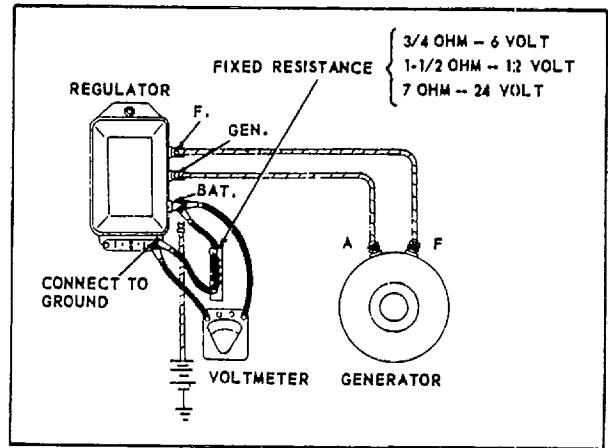

Figure 7-1G. Checking Voltage Setting of Voltage Regulator
b. To check the voltage setting, a fixed resistor of 2.25 ohm must be substituted for the external charging circuit by disconnecting the battery lead at the regulator and connecting the resistor between the regulator "BAT" terminal and ground. A test voltmeter is connected in parallel with the fixed resistor as shown in figure 7-1G. The resistor must be capable of carrying 10 amperes without any change of resistance with temperature changes.
(1) With generator operating at specified speed and with the regulator at operating temperature, note voltage setting. Cover must be in place. (See Table VI